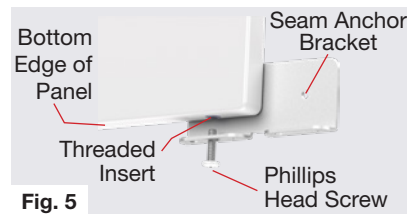

Fig. 5
- **Attach Seam Anchor Brackets to WhiteWall® Panels**—Insert a Phillips Screw through the left panel slot of the Seam Anchor Bracket and into the threaded insert on the bottom **right corner** edge of all panels in the WhiteWall® assembly, **except** the right-end panel (Fig. 5). **Fasten snugly. Do not over-tighten.**